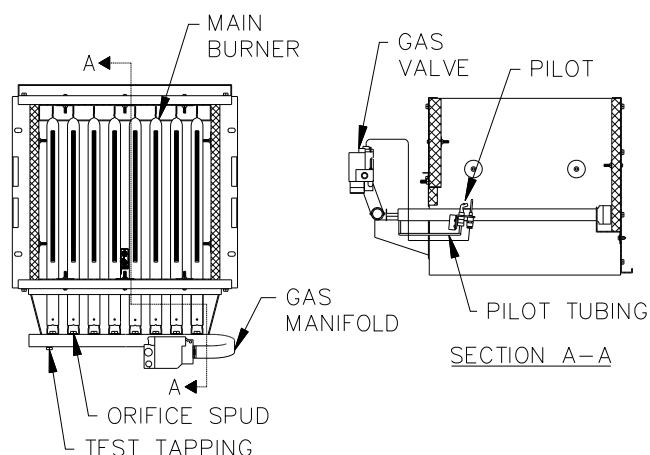

Figure 8.1: Gas, Valve, Manifold and Burner Assembly
10. Connect a manometer to 1/8 NPT tapping provided on the manifold. See Figure 8.1.
15. The gas manifold and control assembly provided with this boiler meet with all criteria regarding safe lighting and performance as specified in ANSI Z21.13 (CSA 4.9), *Gas-Fired Low-Pressure Steam and Hot Water Boilers*. The gas manifold and control assembly are made of gas-tight, completely factory assembled and installed components of the base assembly. See Figure 8.1.